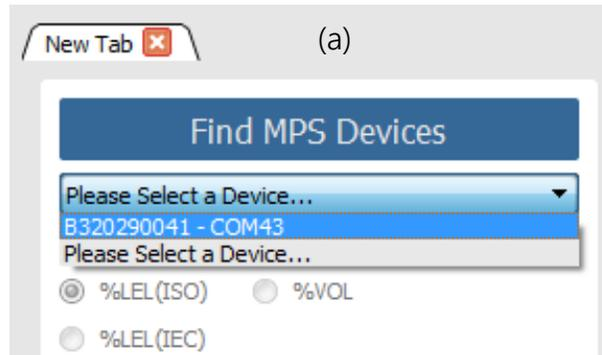

Figure 3 – Selecting the active MPS™ A2L Refrigerant Gas Sensor.
5. Click the "Find MPS Devices" button and select the MPS A2L Refrigerant Gas Sensor connected to the computer (Figure 3). The sensor name is found on the sensor serial number in the form: Bxxxxxxxx.